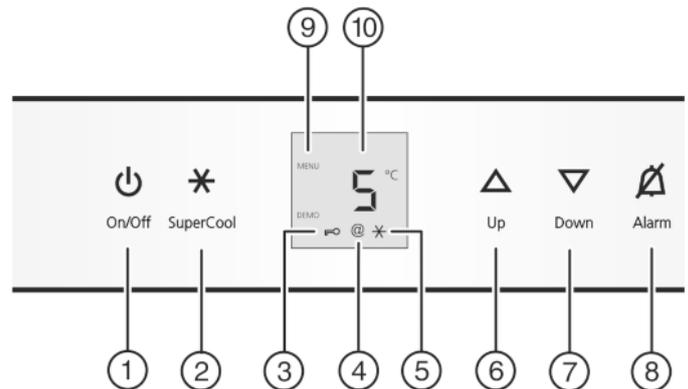

Fig. 2
- ▶ Press On/Off button Fig. 2 (1).
- The SmartDevice box symbol Fig. 2 (4) is displayed and flashes -> The SDB is not connected.
- The SmartDevice box symbol Fig. 2 (4) is displayed and doesn't flash -> The SDB is connected.
- The SmartDevice box symbol Fig. 2 (4) is not displayed -> The SDB is not active, was not inserted correctly or the SDB connector was not installed correctly.
- ▶ Activate setting mode: Press the SuperCool button Fig. 2 (2) for around 5 seconds.
- ▷ The Menu symbol Fig. 2 (9) lights up.
- ▶ Choose with 'Up' button Fig. 2 (6) and 'Down' button Fig. 2 (7) **2**.
- ▶ Briefly press SuperCool button Fig. 2 (2) to confirm.
- ▶ Choose with 'Up' button Fig. 2 (6) and 'Down' button Fig. 2 (7) **20**.
- ▶ Choose with 'Up' button Fig. 2 (6) and 'Down' button Fig. 2 (7) **21**.
- ▶ Choose with 'Up' button Fig. 2 (6) and 'Down' button Fig. 2 (7) **2d**.
- ▶ Choose with 'Up' button Fig. 2 (6) and 'Down' button Fig. 2 (7) **2H**.
- ▶ Choose with 'Up' button Fig. 2 (6) and 'Down' button Fig. 2 (7) **2L**.
- ▶ Deactivate setting mode: Press the On/Off button Fig. 2 (1).
- ▶ Briefly press the SuperCool button Fig. 2 (2) to confirm.
- ▶ to activate the child lock, briefly press the SuperCool button Fig. 2 (2).
- ▷ The child lock symbol Fig. 2 (3) shines. **c** flashes in the display.